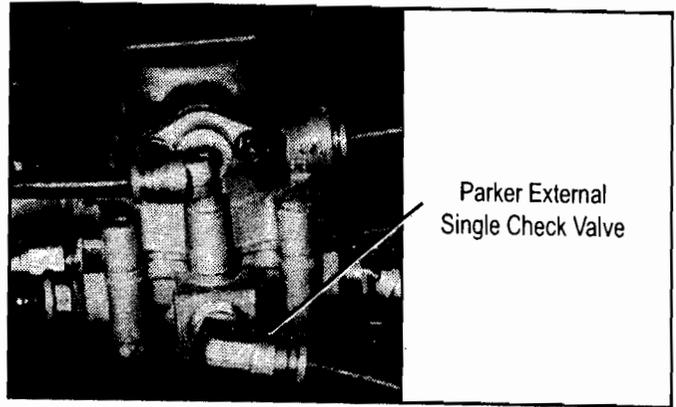

Figure 2 - SR-7™ VALVE & PARKER SINGLE CHECK VALVE
4. Remove the 1/2" OD supply line from the Parker single check valve supply port. See Figures 2 and 3. **Note:** Some SR-7™ valves may have a fitting between the single check valve and the SR-7™ valve.